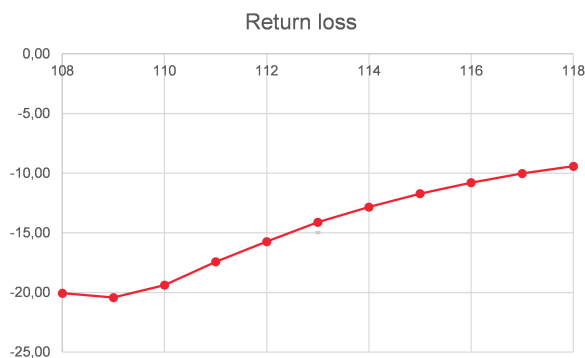

Figure 4-1: Typical return loss at 108 MHz to 118 MHz range
4. Measure the S11 parameter. It should be $\leq -8\text{ dB}$ (see Figure 4-1).
7. Measure the S11 parameter. It should be $\leq -8\text{ dB}$ (see Figure 4-1).